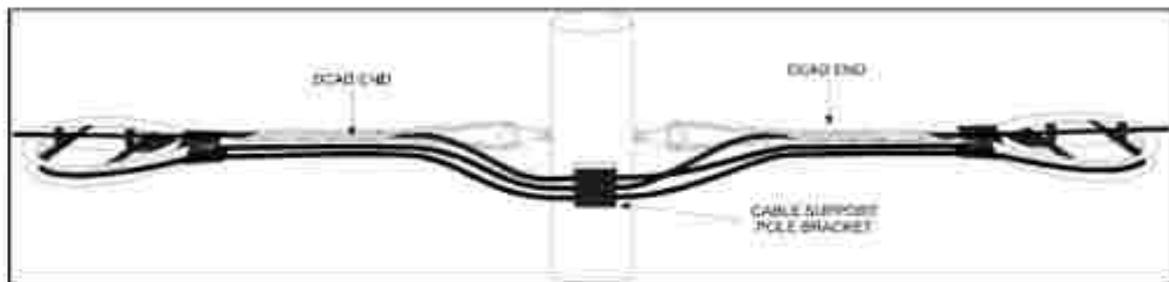

Figure 1 – Cable Slack Storage
- g. All slack cable storage locations require the installation of slack cable storage brackets. The strand cable storage bracket insures a proper bending radius for the stored fiber optic cable and provides for horizontal storage and tiering for storage of multiple cables and loops. Figure 1 below illustrates slack cable storage.